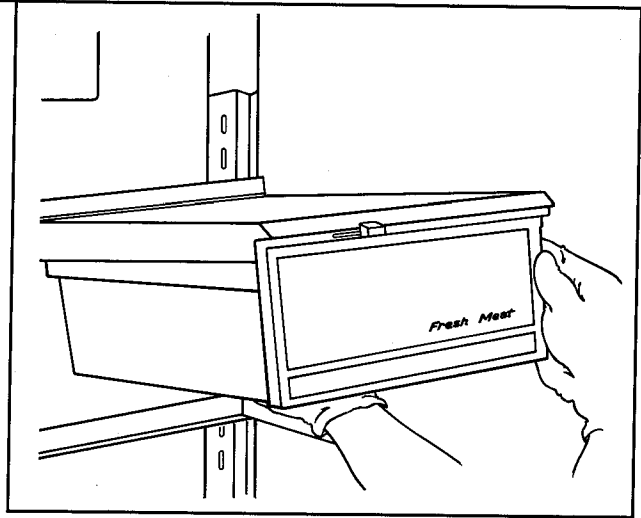

Figure 52
- c. Move meat storage shelf to a new position. See Figure 52.